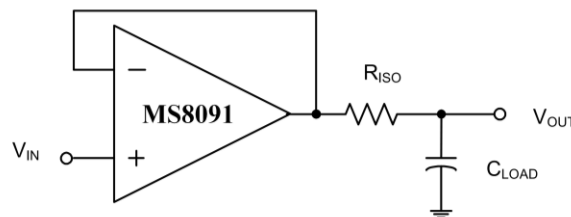

Figure 1. Series Resistor and Capacitive Load
The MS809x optimizes not only driving capacitive load, but also bandwidth and rate. Output capacitance would add a pole in the amplifier's feedback loop, which would result in excessive peak and possible oscillation. If there has requirement for driving capacitance in application, two schemes can be considered: (1) A small resistor is in series with amplifier's output and capacitive load. (2) Add overall noise gain to reduce the bandwidth of amplifier's feedback loop. Figure 1 shows a follower of unity gain using the series resistor way. The resistor separates the output from the capacitance, and it is more important that creating a zero in the feedback loop, which compensates for the pole of output capacitance.